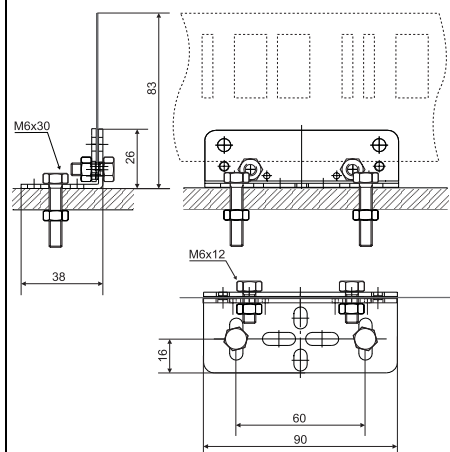

Fig. 2
- WCS-MB1: angle for straight section with fixing screws (Fig. 2)